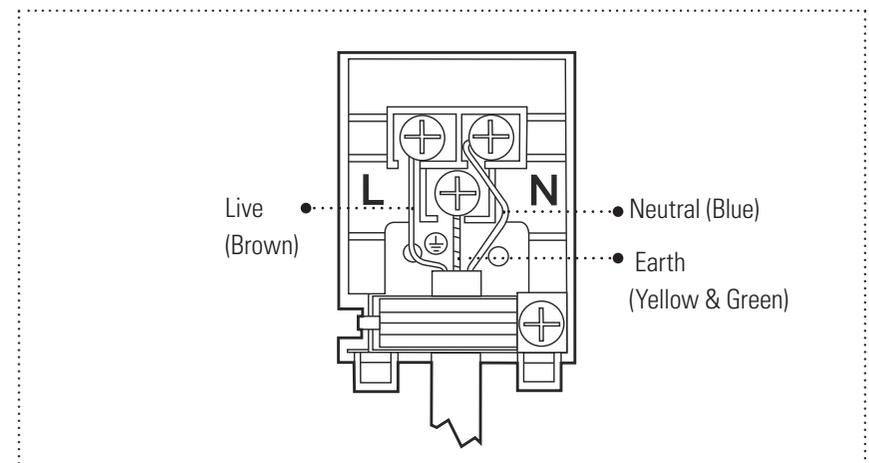

Figure 5
- » This appliance must be earthed. 3X0, 75 MM2, HV05 V-F power supply cable must be used. The earth wire must be connected to the screw with the ⊕ symbol. See Figure 5 for the connection diagram.